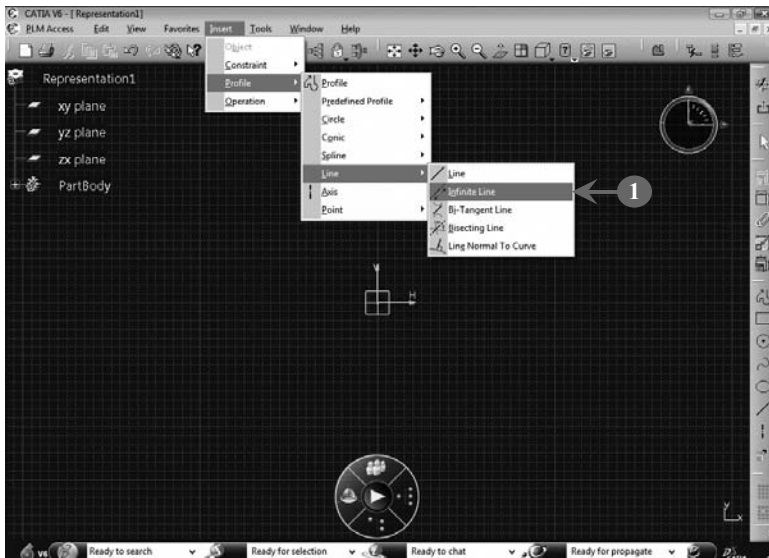

FIGURE 2.16
1. Select **Insert > Profile > Line > Infinite Line**, as shown in **Figure 2.16**: